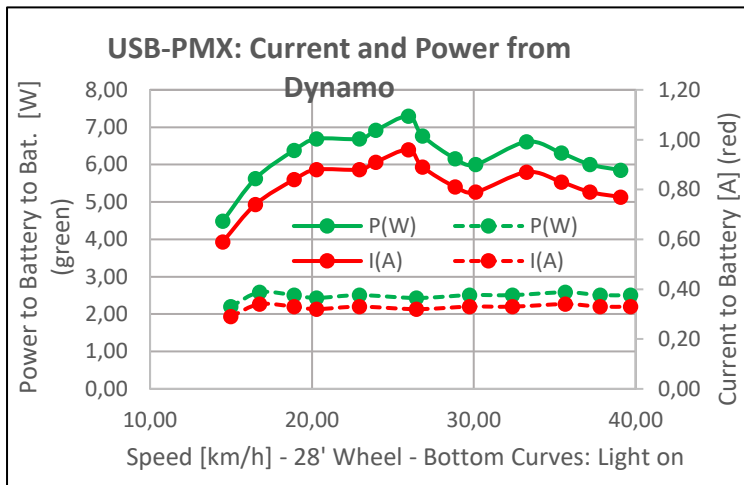

Fig. 3: Charging current from dynamo (Shimano) vs. speed, light on and off, for a typical Shimano hub dynamo (Power and current measured DC to Battery)
The harvester incorporates a very powerful hub dynamo charging-unit (AC) optimized for speeds from 15 to 35km/h (0.9A typically between 18 ... 35km/h, see fig. 3). The dynamo input includes a safety circuit to prevent from overload (high voltage during no load).
- 3) Average DC current into battery, see fig. 3, typical hub dynamo, 6V/3W, bike light off, the maximum permissible speed is 40km/h, it may be exceeded for a short time (28" wheels, smaller wheels correspondingly slower)
The harvester needs more than $6V_{eff}$ for charging the batteries. If the light is off a typical hub dynamo provides such a level. If the bike lights are on the voltage level is reduced below $6V_{eff}$. In that case the harvester is not able to pull full current from dynamo (see fig. 3) as the lamps are using most of the power. You can however supply your smartphone from the battery.